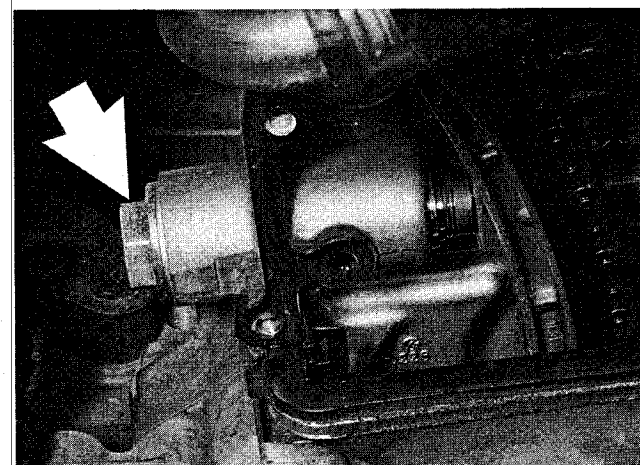

Fig. 8. Hydraulic chain tensioner plug (arrow).
14. Remove hydraulic chain tensioner from right side of cylinder head. See Fig. 8.